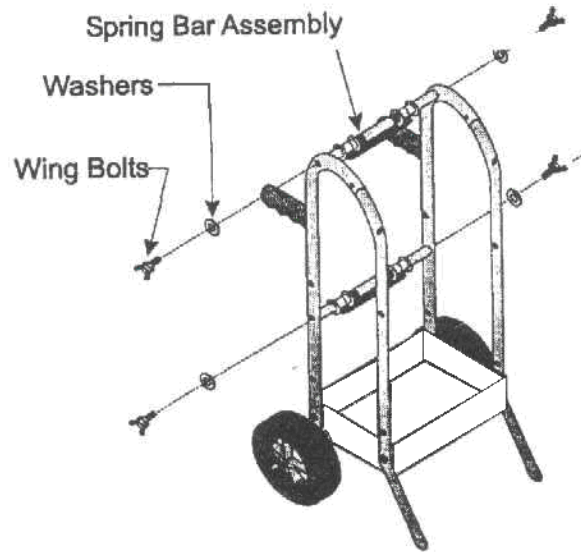

*Figure 4. Spring Bar Installation*
8. Repeat steps 6 and 7, placing the second Spring Bar Assembly between the large holes in the Rear Frame above the Large Bottom Tray. See *Figure 4*.